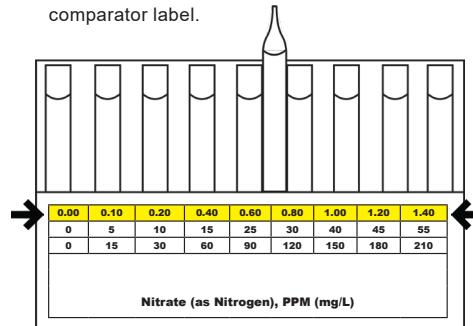

Figure 5
b. **High Range Comparator (fig. 5):** Place the ampoule between the color standards until the best color match is found.